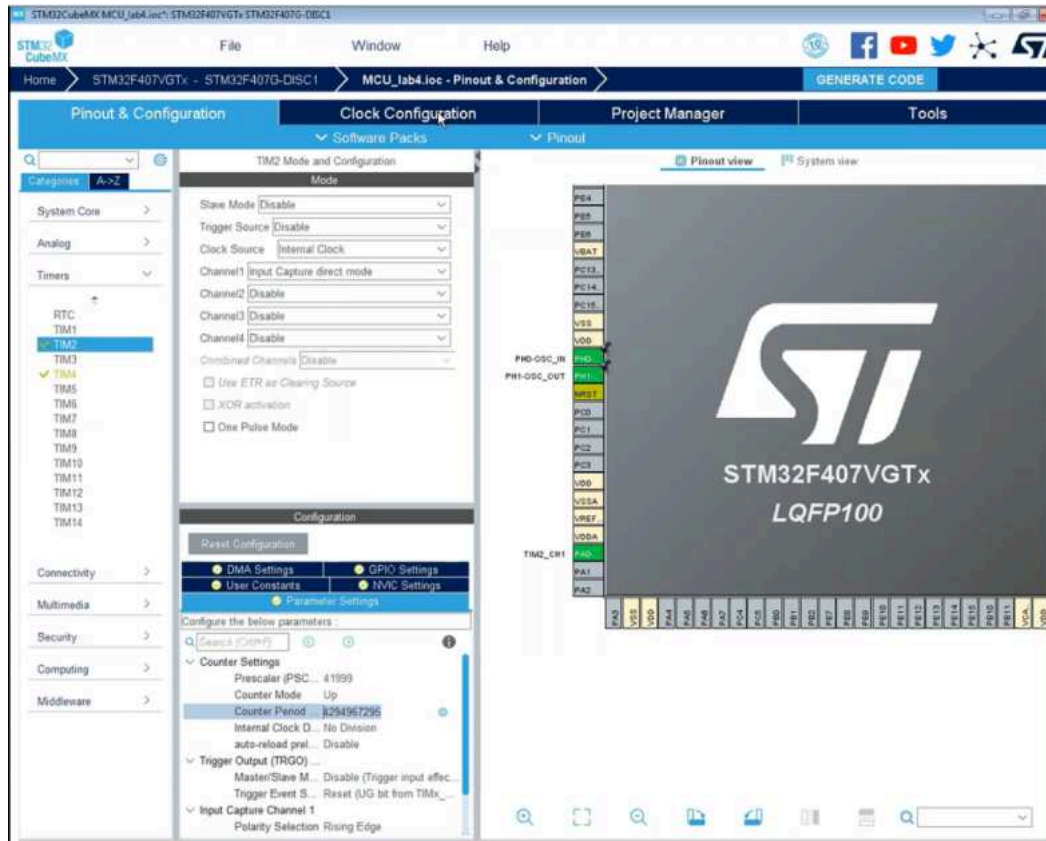
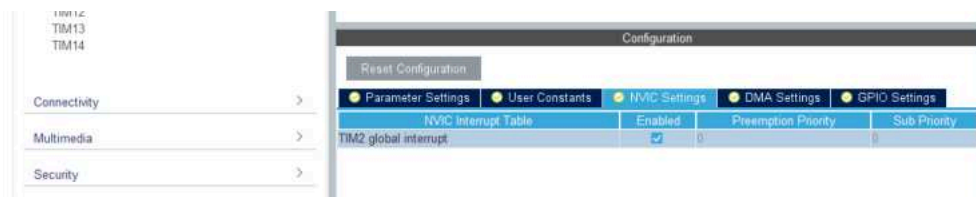
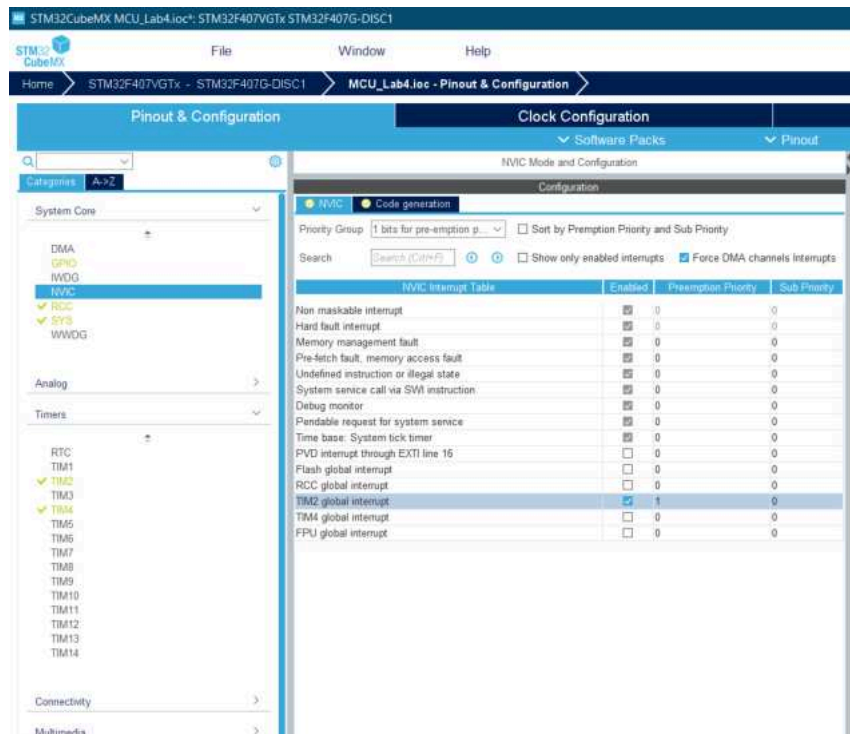

Figure 19
Figure 20
Figure 21
11. Now, we continue with input capture mode. First, you close the Keil μ Vision and go back to the CubeMx and change some configurations. Use TIM2 in input capture mode and Channel 1 (which is connected to PA0 pin) of the TIM2 is used in input capture direct mode. So, use a cable to connect PA0 with PD15 pins. Set prescaler value is 41999, counter mode is up, counter period is 1999 for TIM2 (Figure 19). Go to NVIC settings and enable the interrupt for TIM2 (Figure 20). Go to System Core and set the Preemption Priority as 1 for TIM2 (Figure 21). Then click Generate Code and Open Project in Keil μ Vision.